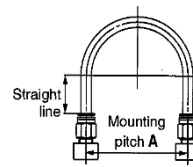

Figure 1 Recommended piping
##### (1) When connecting piping to the One-touch fitting, use a pipe length with sufficient margin, in accordance with the piping conditions shown in Figure 1.